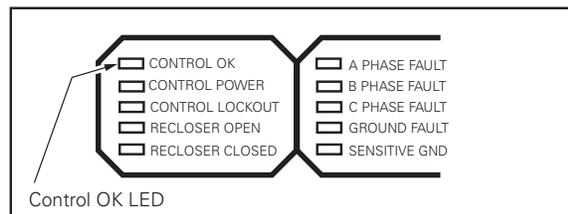

Figure 29. Control OK LED
4. Verify the Control OK LED is illuminated on the control operator panel (**Figure 29**). This indicates the presence of AC power.